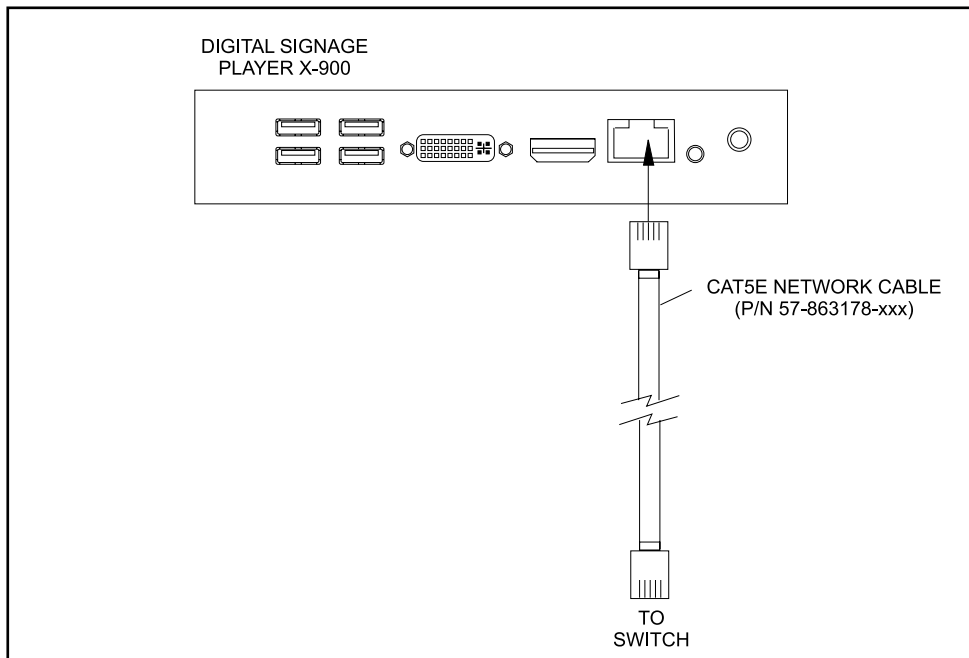

Figure 1. X- Series Digital Signage Player
1. Connect the Digital Signage Player to the computer network using a Cat5e network cable (P/N 57-863178-xxx). The player must communicate with the Vector Plus server. Refer to *Figure 1*.